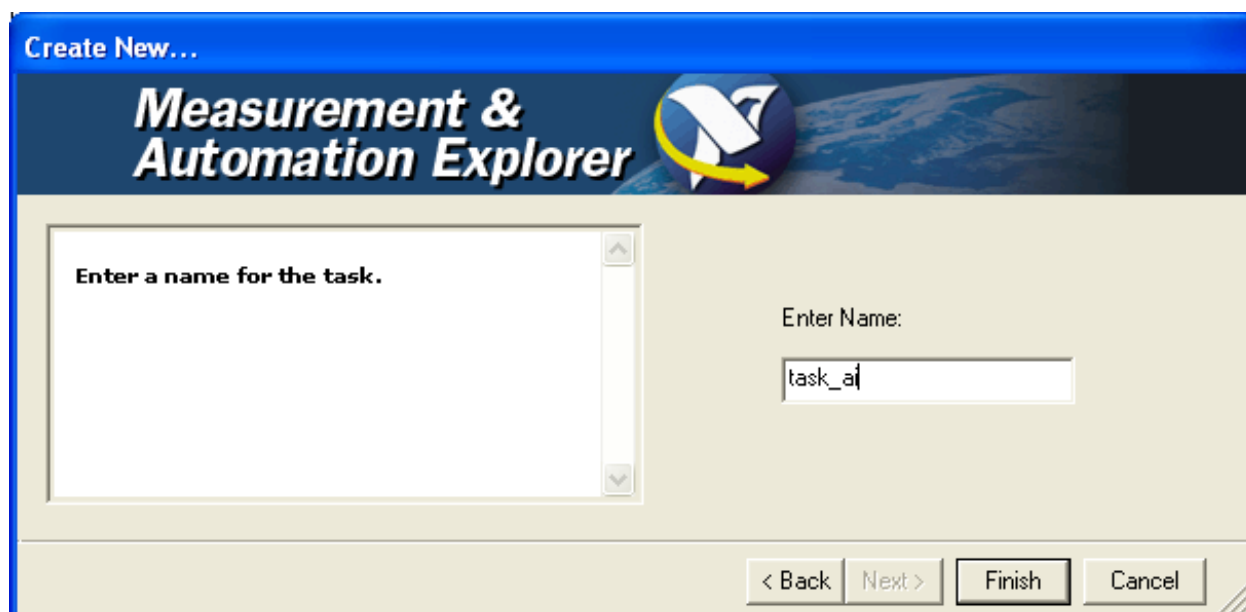
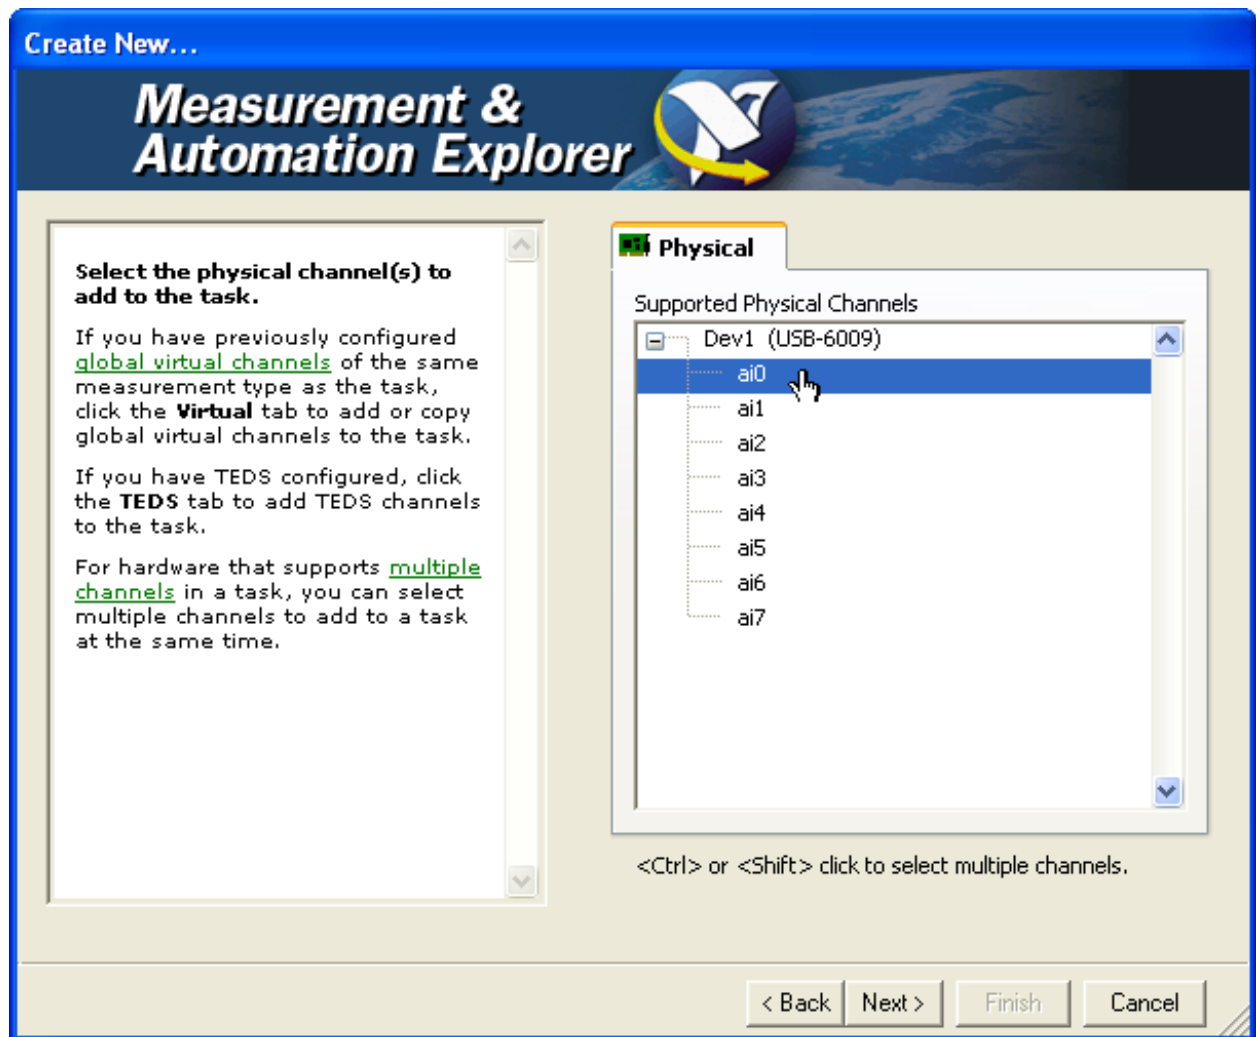
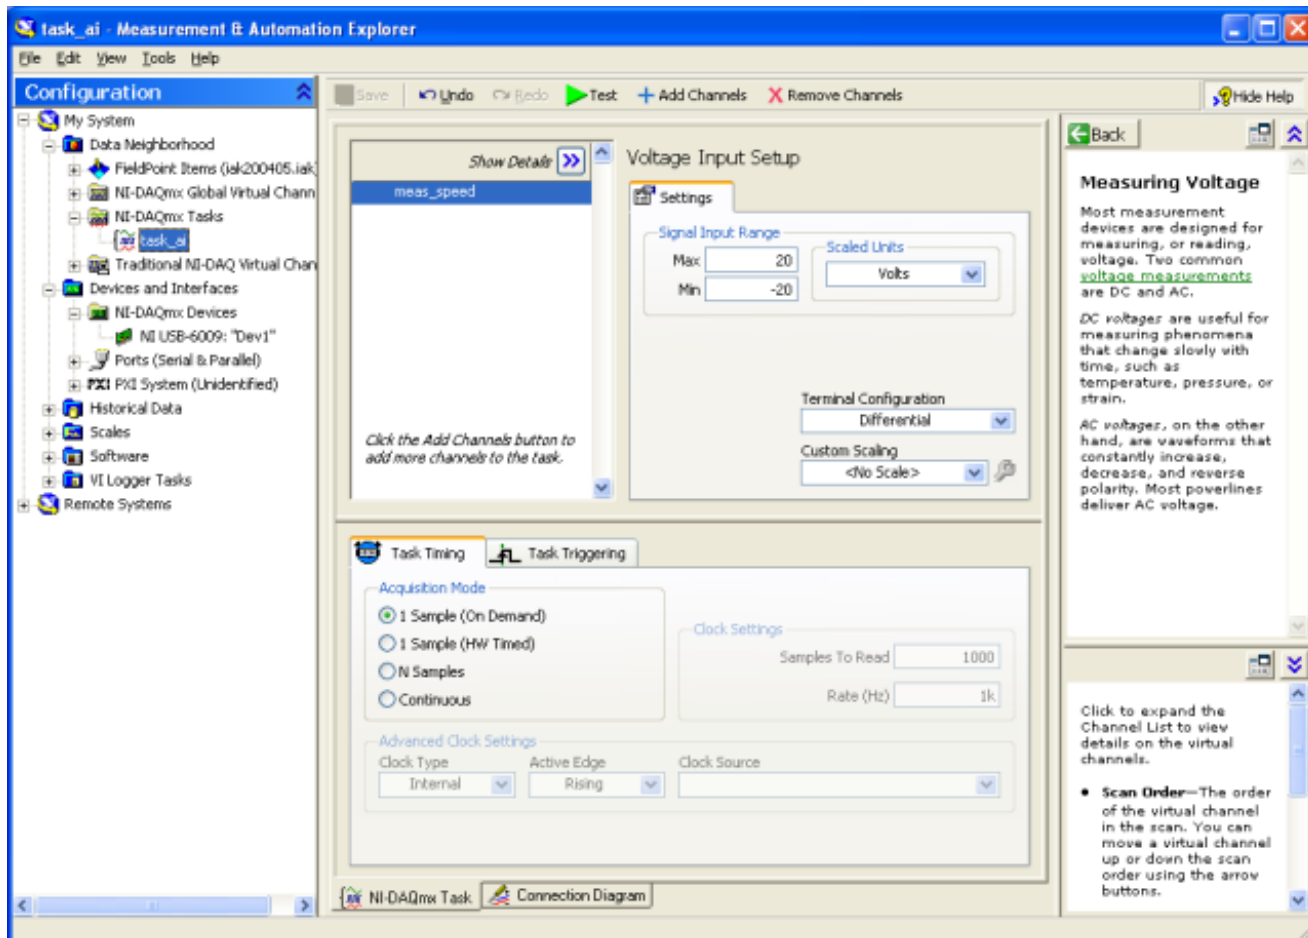
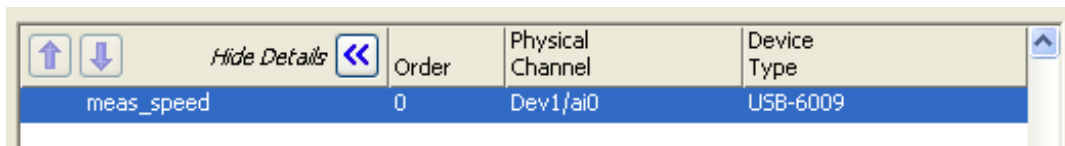

Figure 15: Window where you can enter the name of the task
Figure 16: Selecting physical channel for the task
Figure 17: Window for configuration of the analog input associated with task\_ai0
Figure 18: Details about a virtual channel can be shown/hidden using the Show Details/Hide Details button
From the list of measurements type, we select in our case **Voltage**, which opens the window shown in Figure 15 where you can enter the name of the task.
By clicking the **Finish** button in the window shown in Figure 15, the window shown in Figure 16 is opened where you can select the physical channels for your task.
In the window shown in Figure 16, we select **ai0**, which opens the window shown in Figure 17.
The window shown in Figure 17 has several items. Most of these are described in the following. Note that information about an item in the window is shown in the sub-window down right (see Figure 17).
- **Virtual channel list**, which is the area having the Show Details button at the top. By default, the virtual channel name of an analog input channel is Voltage, Voltage1 etc. However, you can *rename* the channel by right-clicking the virtual channel name, and then selecting Rename from the context menu. This has been done in Figure 17, where the default name Voltage has been renamed to meas\_speed. You can also, by right-clicking on the virtual channel name, define a (local) virtual channel to become a *global virtual channel*, which means that the channel can be a part of several tasks at the same time.
- **Custom Scaling:** This gives you the possibility to define a scaling of the raw measurement signal from the measurement unit (Volts in the USB-6009) to some other unit (e.g. cm). It is the scaled value (e.g. cm) which becomes available in the application software (e.g. LabVIEW). If you select No Scale, it is the numeric value of raw measurement signal (V) that becomes available in the application software.
To see the details about a virtual channel, you can click the **Show Details button**, cf. Figure 17. This shows the physical channel associated with the virtual channel, see Figure 18.
In MAX you can define tasks which involves I/O on several (virtual) channels at a time. This is done by selecting *Add Channels* in MAX, see Figure 17.